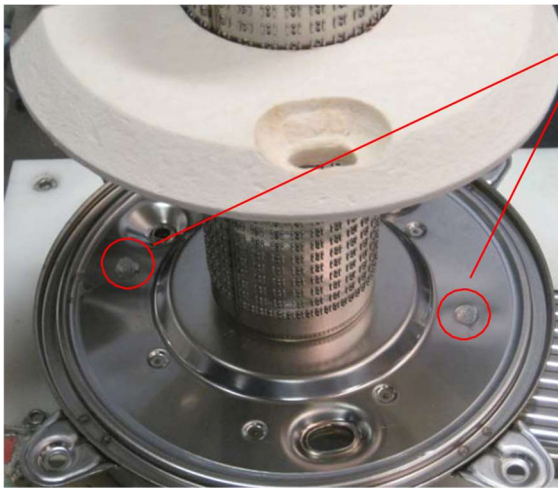

Figure 19.13
- 2.2 Put 2 dots of temperature-resistant silicone glue (Loctite 5366 or Ottoseal S17), according to the location indicated on figure 19.13 (next page)